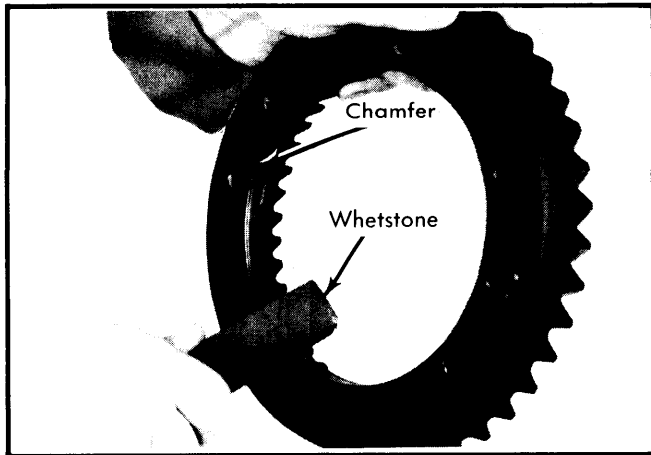

Fig. 2 Relieving Ring Gear Chamfer
3) Make sure contact surface of ring gear and case flange is clean and free of all nicks and burrs. Using a fine whetstone, relieve the sharp edge of the chamfer on inside diameter of ring gear. See Fig. 2.